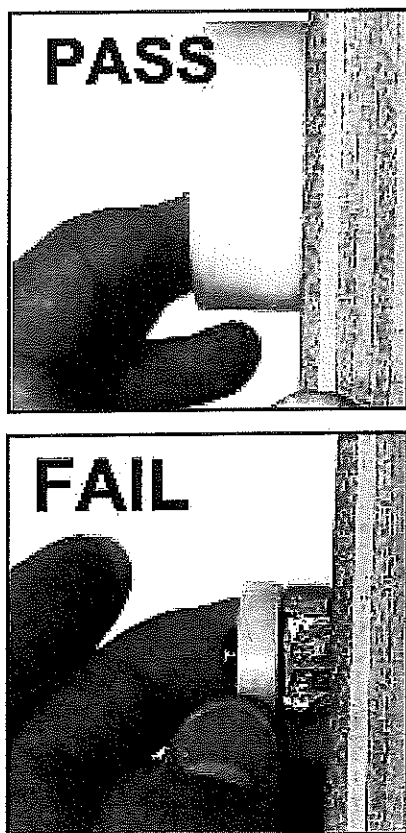

Figure B11. Determining whether a projection is a protrusion
Step 2: Visually determine if the projection penetrates through the hole and beyond the face of the gauge (see Figure B11 below).